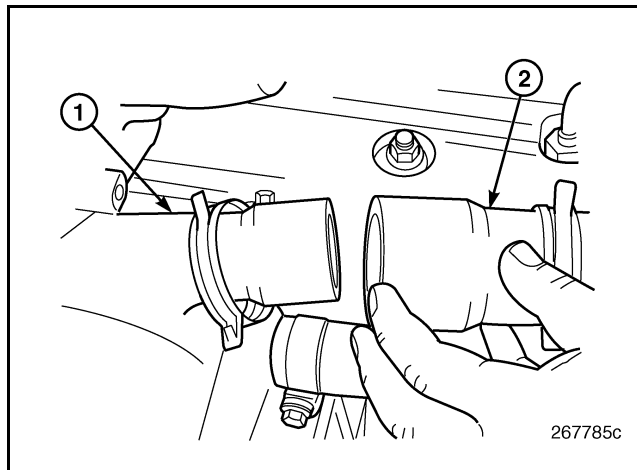

Figure 497 — Cool Tube-to-Cooler Installation
4. Slide the coupling hose onto the cooler port/adapter and secure with the hose clamp (Figure 497).